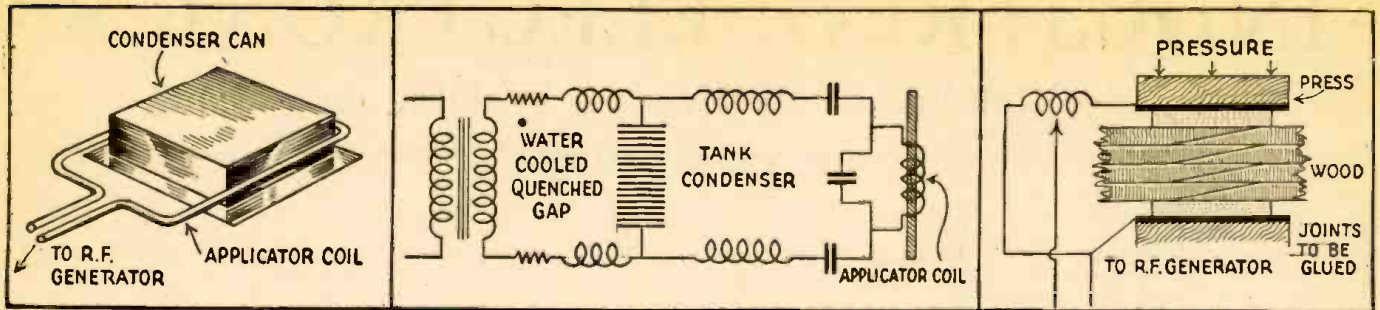

Fig. 4—H.F. heat solders condenser cans. Fig. 5—A quenched-gap type of H.F. heater. Fig. 6—A set-up for H.F. gluing of plywood.
Fig. 3, Upper left—How cells are connected in parallel. Fig. 4, Lower left—A dropping resistor in an A.C.-D.C. radio filament circuit. Fig. 5, Right—How conductance may be used for calculating resistors connected in parallel is illustrated in this typical receiver network.
It would appear especially that electronic H.F. generated heat has a great future in soldering operations. The RCA Victor Division of the Radio Corporation of America has already pioneered this field and has a large installation of such equipment in daily use. Fig. 4 will illustrate the simple circuit used and the place of the metal container in relation to the single loop of heavy wire carrying the H.F. current. Such a system not only works beautifully with single containers but such containers may also be placed in small groups and soldered *en masse*. The cans may also be placed on
The voltage across an inductance (L) leads in phase by 90° the current through it. Also the voltage across a condenser (C) lags in phase by 90° the current through it. The voltage across a resistance (R) is in phase with its current. In Fig. 4 we show how to add (vectorially, of
several combinations of voltage with due regard to phase. The whole procedure is simplicity itself, yet is of the greatest importance. In Fig. 4 the subscript L or C refers to the inductance or capacity and the length of each component voltage may either be calculated or measured on a voltmeter. Once we have each component voltage we must add them by vectors addition. If in the case of C plus R, for instance, our A.C. voltmeter shows 3 volts across C and 4 volts across R, the meter across the entire circuit will show 5 volts.